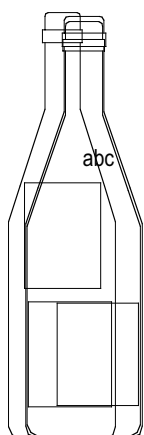

FIG. 13
a) If the packaging looks like Fig. 13 it is necessary to loosen nuts 4 and move the assembly 1 towards the face 20 of the machine. Do another packaging and proceed in the same way until the right position has been found.